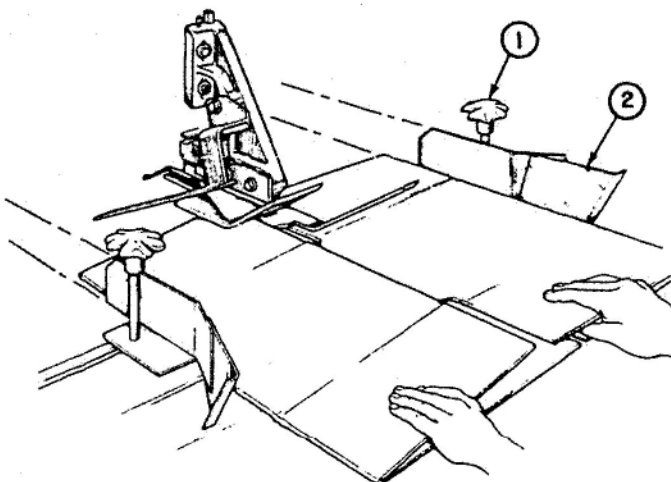

Figure 15 - Right-Hand Openhead Inside Stitch Tab
7. Fold a sample box and position box in proper relation to the openhead for the type of stitching required on the box. Positions of the box in relation to the openhead are shown in Figures 15, 16, 17, and 18. After determining the box position suited to your particular requirements, loosen the locking knobs (1) on the side gauges (2) and bring the side gauges up to the edges of the box. Lock side gauges in place with locking knobs (1). Make sure gauges are not so tight as to cause the box to bind when passing through.